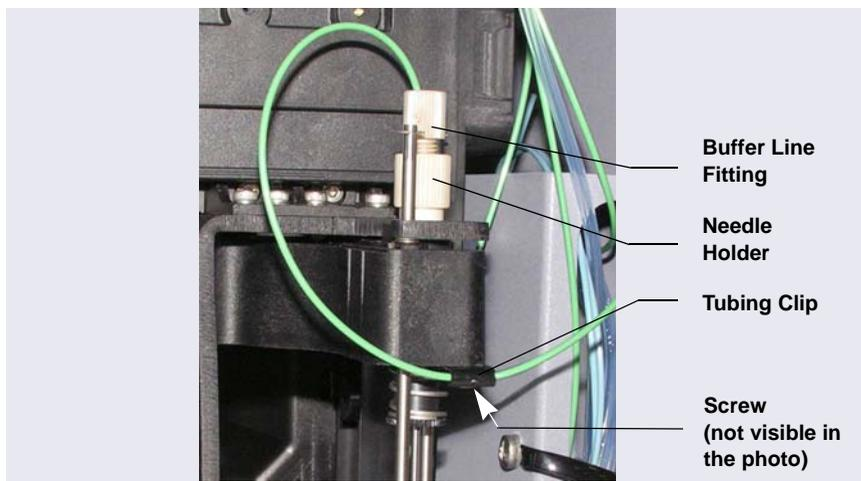

Figure 5-22. Buffer Line Connected to the Needle (Push Mode)
- To disconnect the line from the needle, hold the needle holder with one hand to prevent twisting of the needle, and then disconnect the buffer line fitting (see Figure 5-22). Remove the fitting bolt and ferrule.
9. Use the 2.5 mm Allen wrench (P/N 052952) to loosen (but not remove) the screw on the underside of the tubing clip on the front of the needle arm (see Figure 5-22). Slide the tubing out of the clip and remove the buffer line from the Dionex AS-AP.
2. Slide the free end of the tubing through the tubing clip on the front of the needle arm (see Figure 5-22).